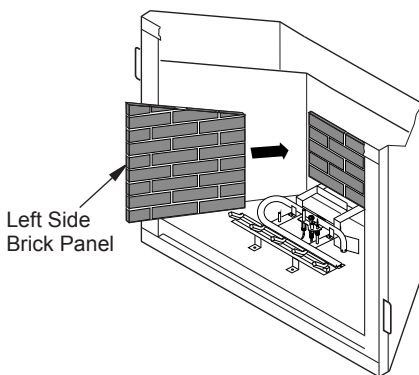

Figure 40 - Installing Side Brick Panels
6. Install left side brick panel by sliding it between the grate and the side of the firebox (see Figure 40).